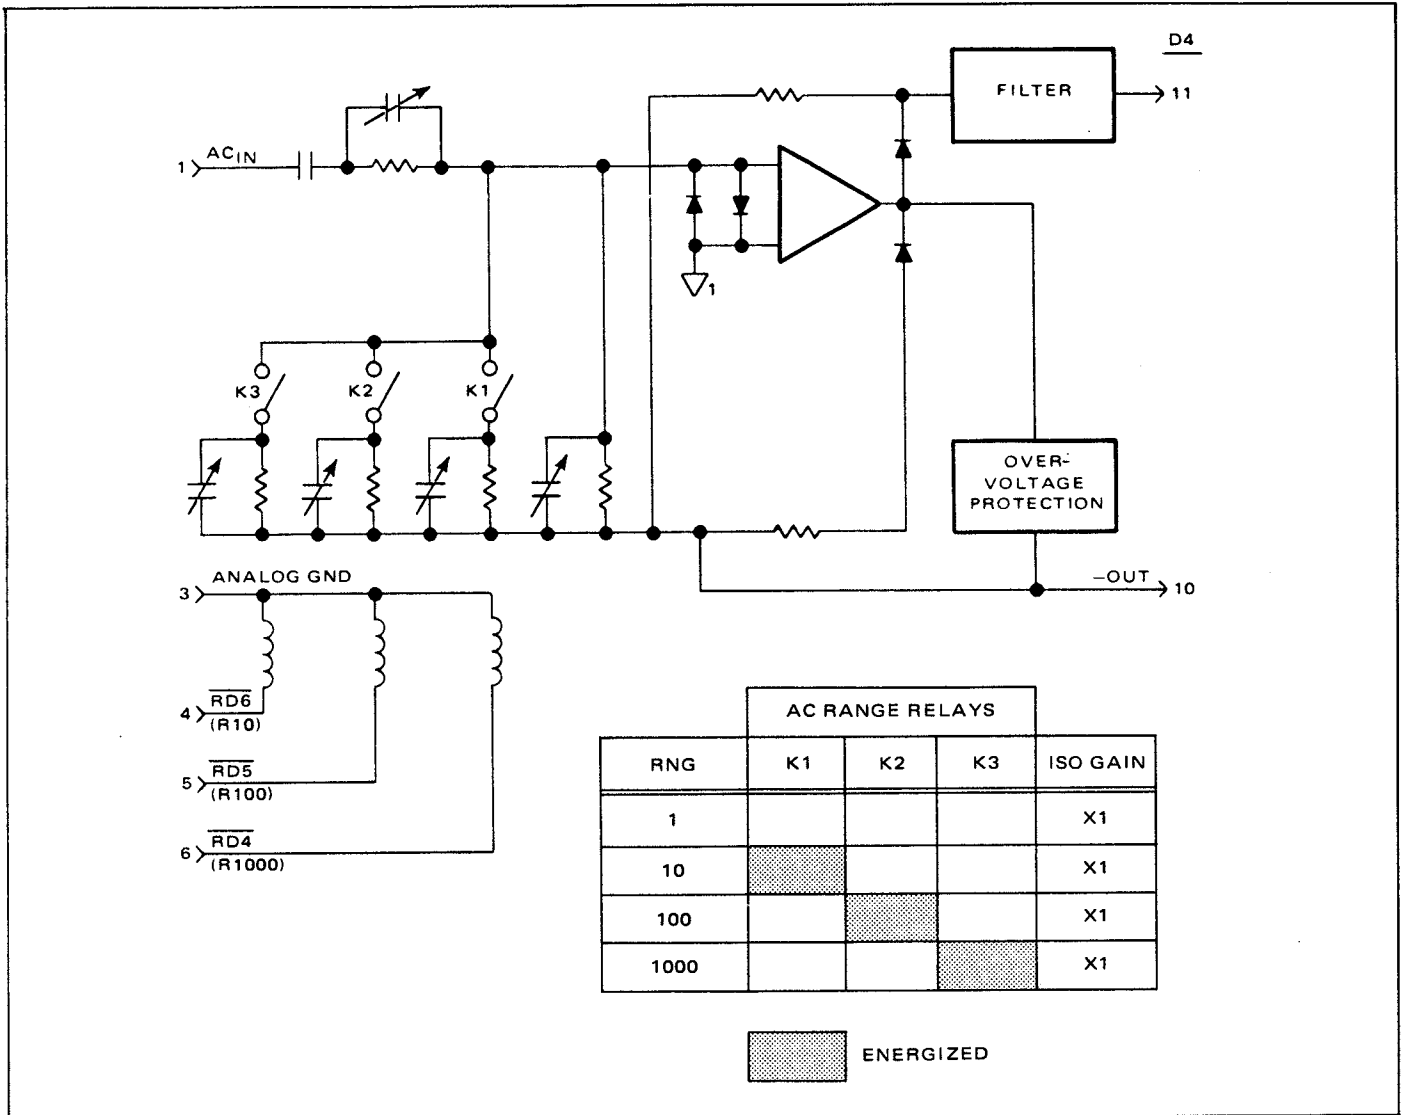

Figure 4.6 - Averaging AC Converter
4.3.5.1 The AC Converter is shown in simplified form in figure 4.6. As shown on the diagram, it consists of an input attenuator network, a rectifier amplifier, and an output filter. The input attenuator network serves to scale down the input measurement voltage controlled by the range relays K1, K2, and K3. The 1V range attenuation is controlled by the fixed R/C values of the input circuit and the input voltage is applied directly to the rectifier amplifier. On the 10, 100, and 1000 ranges, relays K1, K2, and K3 are respectively energized to provide the proper signal input attenuation. The ACV Function configures the isolator for a fixed gain of 1 for all ranges. The rectifier amplifier consists of a dual FET input stage that feeds an operational amplifier that drives a  $G_m$  stage and two rectifier feedback diodes that convert the input measurement signal to a dc voltage, which is smoothed by an output filter network.